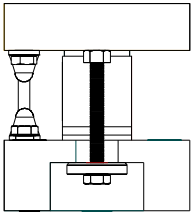

FIG. 1: FIXED PIN LOAD POINT
The HI HLPS Free Sliding Load Point System is designed for use on medium capacity vessels. The pre assembled Free Sliding Load Point System consists of three (3) different low profile mount types (See Figs. 1,2,3) specifically designed to eliminate the effects of unwanted forces and resulting in exceptional load measuring accuracy.